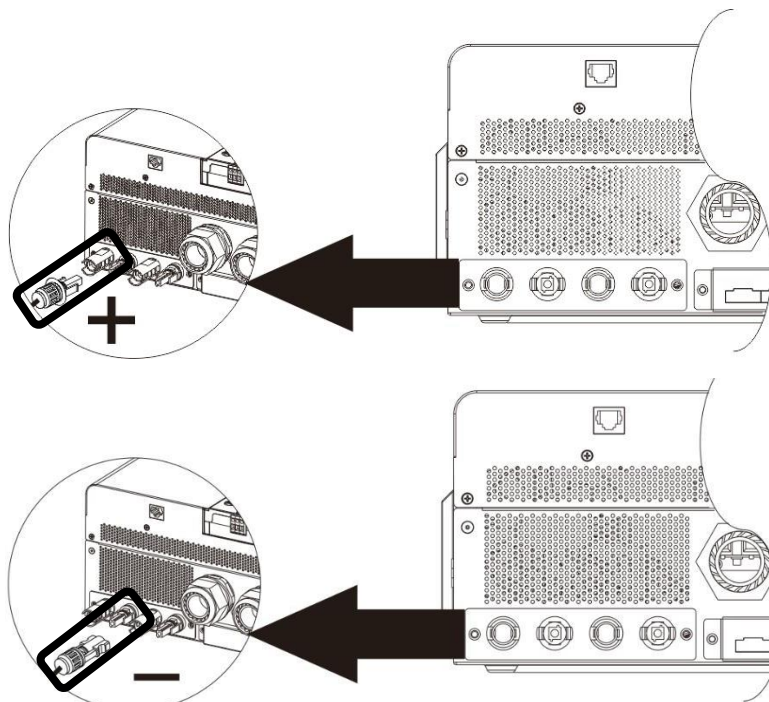

Fig. 9.1: PV connection, PV2 input shown as an example (PSW-H-5KW-120/48V and PSW-H-6.5KW-120/48V)
2. PSW-H-5KW-120/48V and PSW-H-6.5KW-120/48V: use an MC4 crimping tool to crimp the included MC4 connectors to the PV array (see Fig. 9.1, top) if the array does not already have compatible MC4 connectors. *Only use the included MC4 connectors if the PV cable has the cross-section outlined in the first table of this chapter.* Double-check polarity. Then insert the finished MC4 connectors into the PV1 and PV2 connectors on the inverter, positive (+) on the left and negative (-) on the right (see Fig. 9.1, bottom).